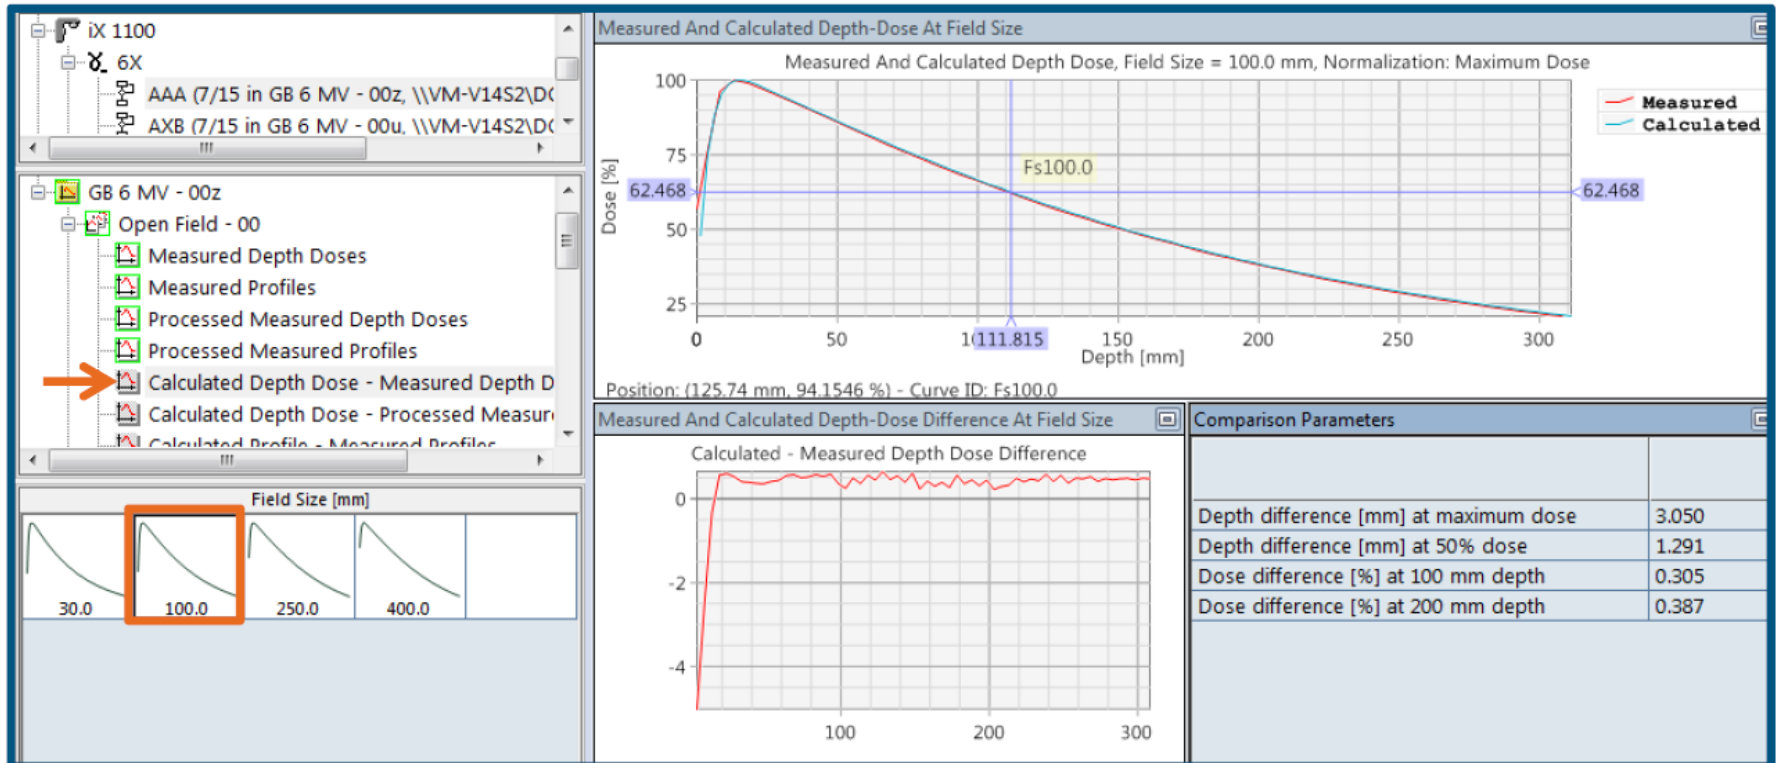

Figure 8: Example - PDD Comparison: Calculated vs Measured
**Figure 8.** Schematic of ray lines that determine the form of the edge of the radiation field and light field at the curved end of an MLC leaf. SAD is the distance from the source to isocenter and SCD is the distance from the source to the center of the leaf. R is the radius of curvature of the leaf end.